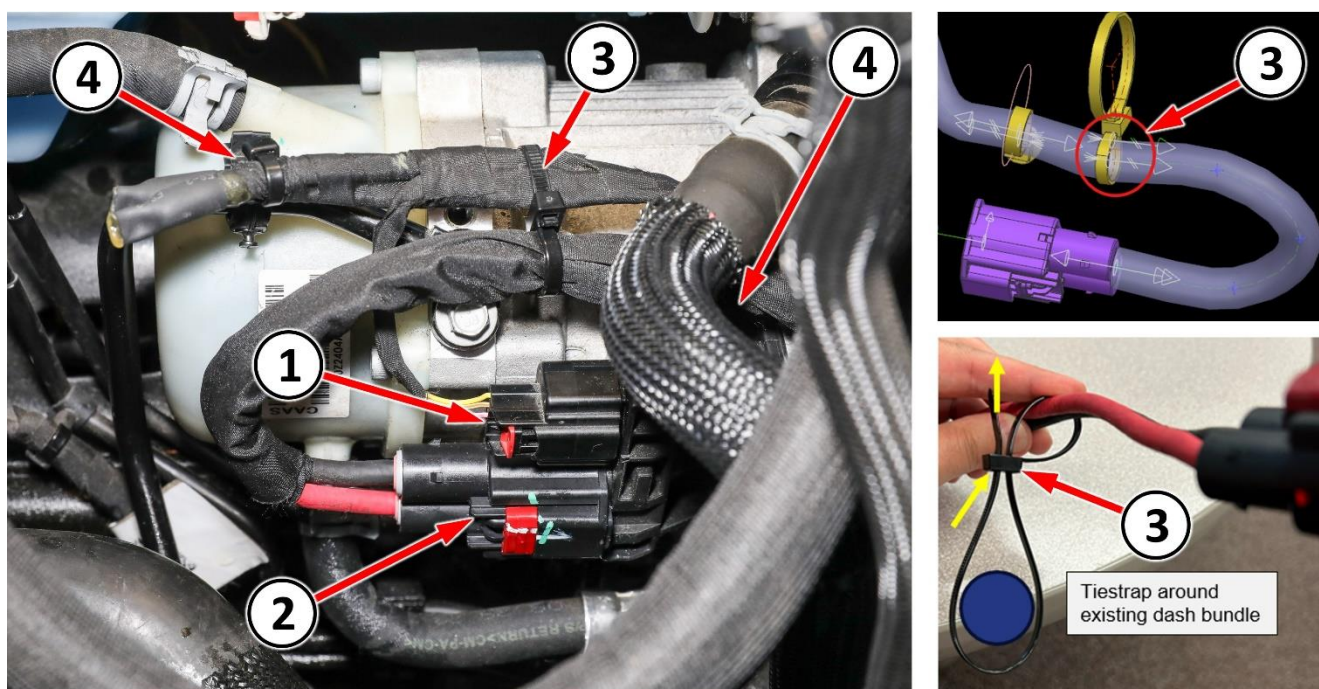

Figure C12 – Power Steering Pump Wire Harness Routing and Clipping
40. Install the EHPS wire harness retainers to the EHPS pump and pressure tube (Figure C12).
41. Connect the electrical connectors to the EHPS pump then engage the red CPA connector latch in locked position (Figure C12). Verify connection with Push-Pull-Push on connector, not on circuits.